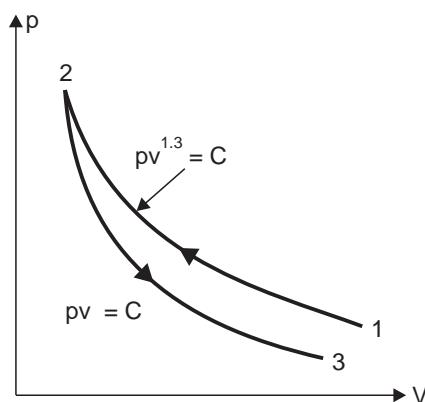

Fig. 5. *p-V diagram.*
**Solution.** Refer to Fig. 5.